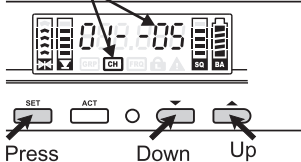

Fig. 12
## (B) CH: CHANNEL Setting. Fig. 12